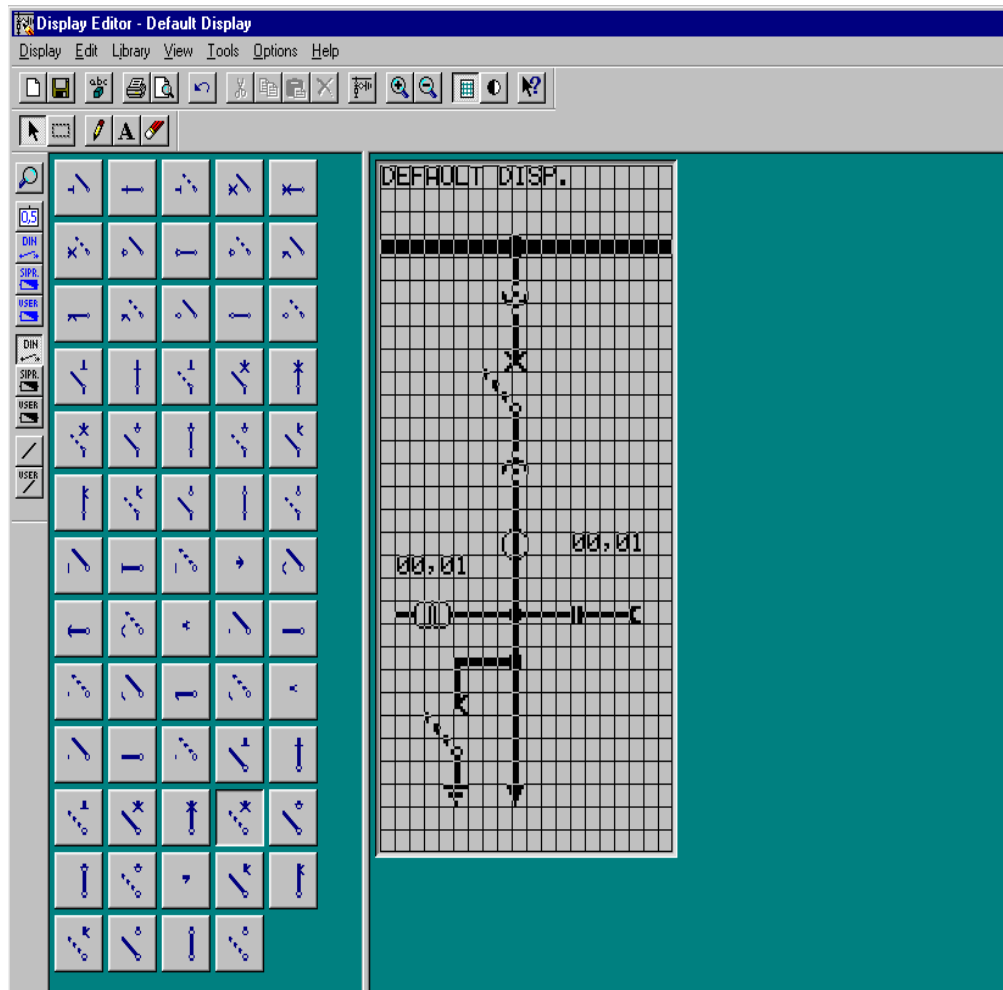

Figure 5-46 Standard default display after opening the Display Editor
When the device is delivered, it might provide one or more pre-assembled default displays (for example, see Figure 5-46). These can be modified or replaced to adapt to the actual substation conditions. However, it is also possible to display other information than the station image on a default display. The display, for example, can be used to view a variety of operational measured values.
As delivered, the relay shows a basic default image (see Figure 5-46) which may be modified or replaced to show the actual equipment conditions. It is also possible, however, to show information in addition to the single-line diagram. The display may also be used, for example, to show a number of measured values.
- In DIGSI® 4, select the default display under the **Setting** option. The Display Editor is started and the default display is opened (see Figure 5-46). *Right-click* in the title bar and select **Open** in the context menu which appears. The desired text may be entered.